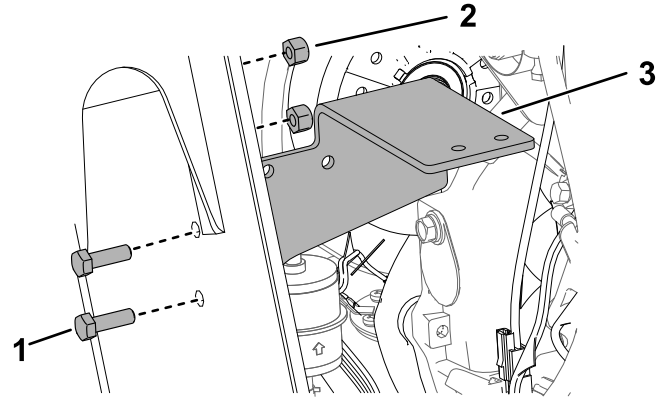

Figure 23
- Install the plate on the frame as shown in Figure 23.